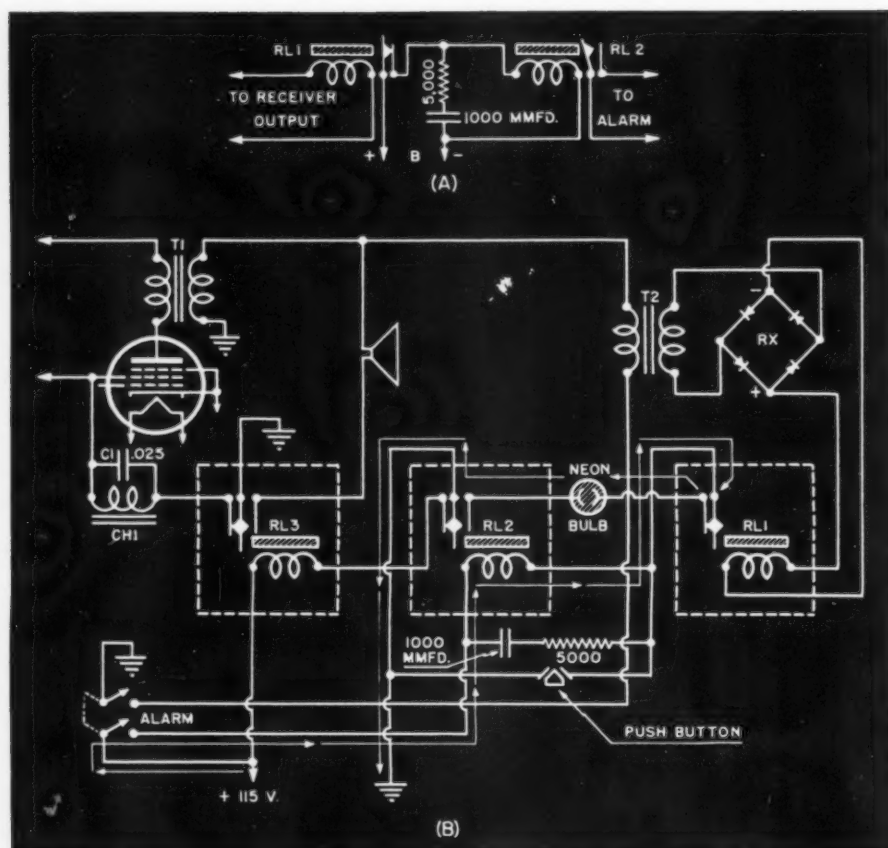

Fig. 1. The Vickerson-Gray alarm system with its basic circuit shown at the top.
closes the alarm circuit. The time period is determined by the capacity of the condenser and the resistor in series with the resistance of the field of the second relay. This condenser has an action which is similar to that of a storage battery. For circuit diagram refer to Figure 1(A).
maximum efficiency results. For, for instance, to obtain sufficient voltage to operate the first relay in the Vicker-son-Gray system shown in Figure 1 (B), it was necessary to insert a step-up transformer T2, which is a plate-to-5-ohm voice coil transformer. And, instead of connecting it as usual, it was connected in reverse. To make the operation of this relay consistent, rectification was used. This was done by rectifying the output of the step-